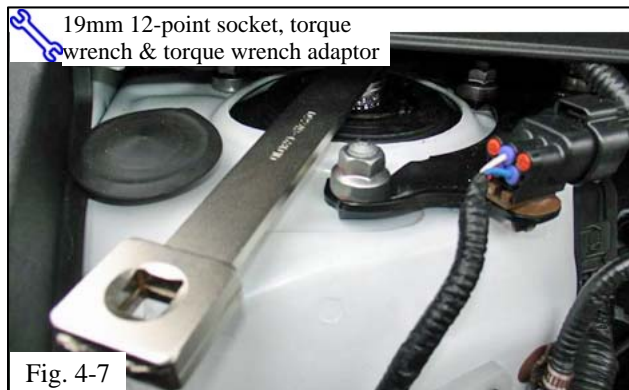

Fig. 4-7
- (j) Tighten the upper shock absorber nuts (Fig. 4-7).